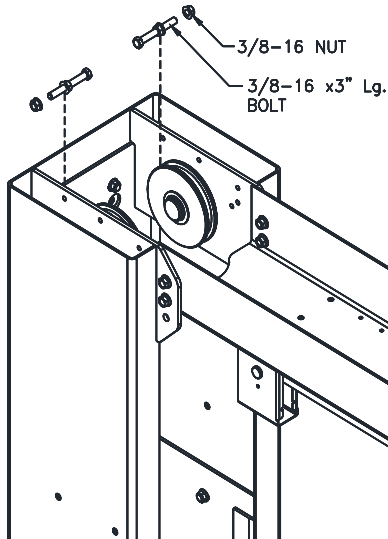

Fig. 11 – Column Ext. Cable Trapping
32) Route the free end of a cable coming out the top of the carriage up and over the upper sheaves and back down the opposite side. Install a 3/8x3 cable trapping bolt with a nut on each side of the overhead support plate at each sheave, **Fig. 11**. Do this for both cables.